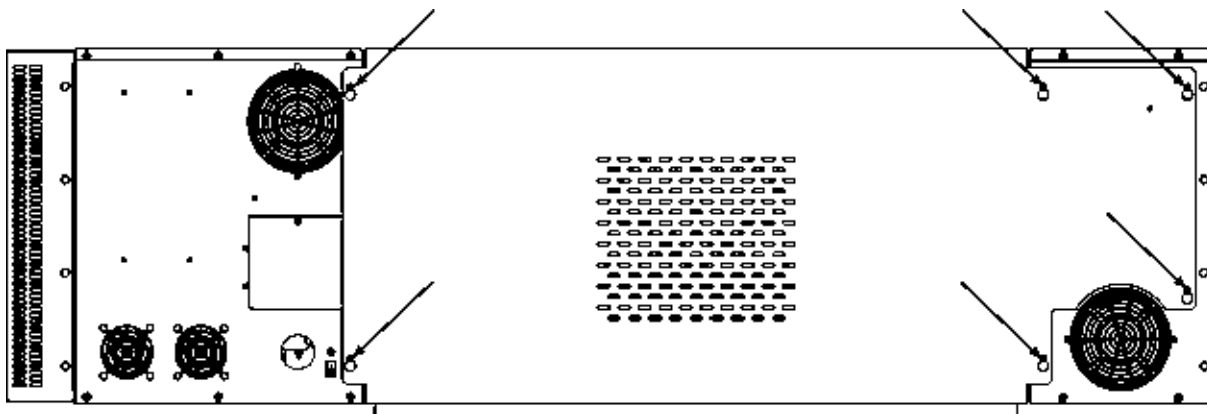

Figure 4-40.
1. Check the main blower/fan belt for proper tension and wear. To gain access, loosen the six screws (Figure 4-40) of the rear shroud and lift shroud cover up and off.